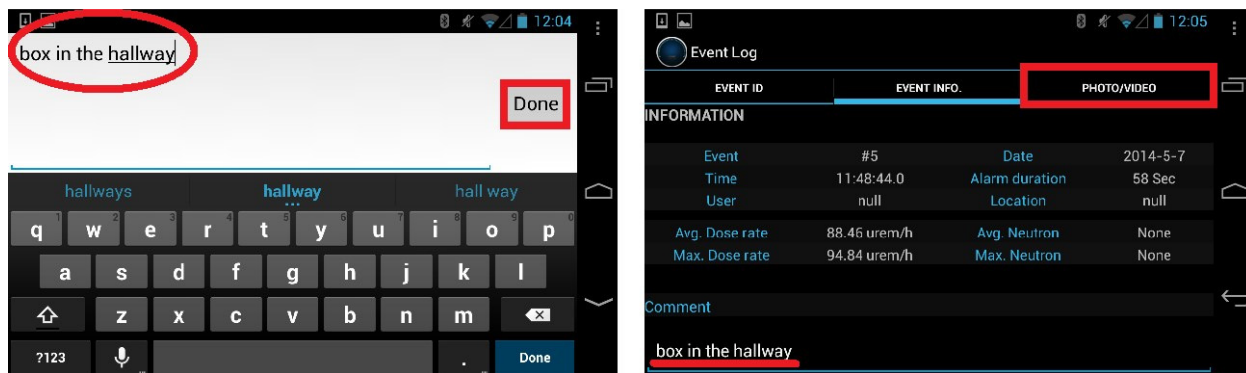
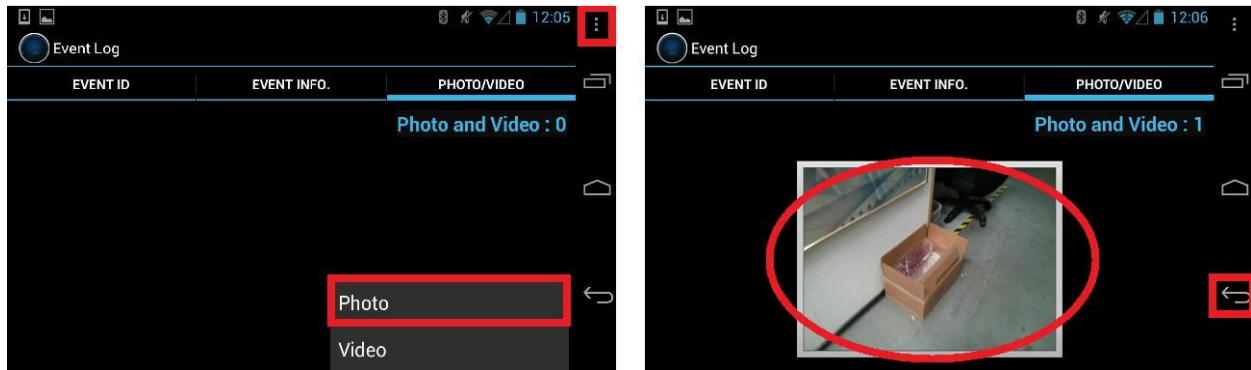

Figure 4.22. Attach Comment example
Figure 4.23. Attach Photo example
- b. Type your comment and touch **Done** (Figure 4.22, left). To add more text, repeat 2.a and 2.b.
3. To attach a photo, touch the **Photo/Video** tab (Figure 4.22, right) to open the Photo/Video screen (Figure 4.23).
- a. Touch the menu button and select either **Photo** or **Video** (Figure 4.23, left).
You will automatically be returned to the Photo/Video page. The image is now displayed as part of the event (Figure 4.23, right). Repeat steps 3.a through 3.c to add more images.
4. Touch the return key  on the lower right side of the screen (Figure 4.23, right) to return to the Event Log.